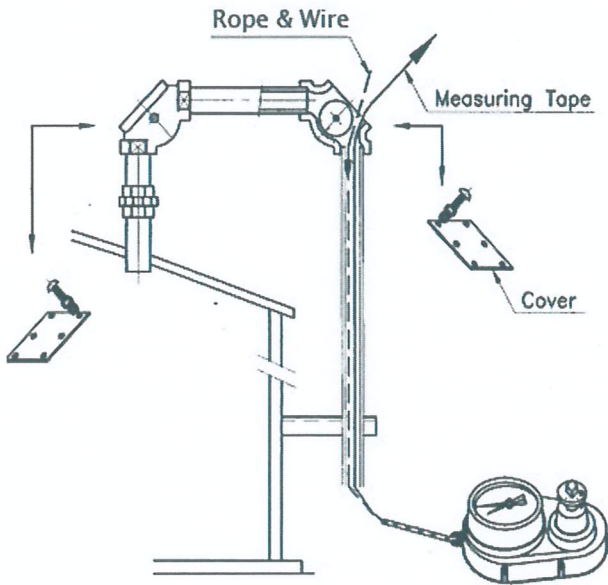

Fig. 10
- ④ Put the measuring tape through guide wire pipe of indication with the same tying a rope or wire on the end of it at this time. You shall put out carefully the rope or wire not to be the measuring tape twisted (Refer to the fig. 10).